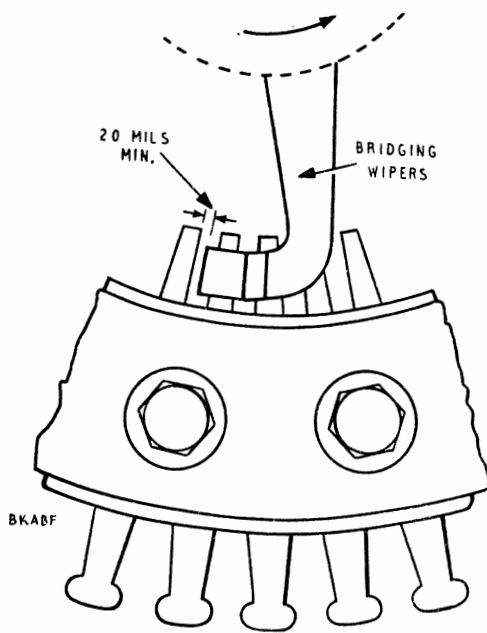

FIG. 14.—CORRECT POSITION OF THE BRIDGING WIPERS
10. Position of bridging wipers.—With the armature in its normal position, the tips of the bridging wipers must clear the leaving edges of the previous contacts by 20 mils minimum (see Fig. 14). If the clearance is found to be less than 20 mils, recheck the alignment of the non-bridging wipers on the bank contacts. If the required clearance cannot be obtained with the non-bridging wipers adjusted flush with the entering edge of the contacts, it is permissible to advance (in the direction of rotation) the most forward non-bridging wipers by a maximum of one-third the width of the bank contact.